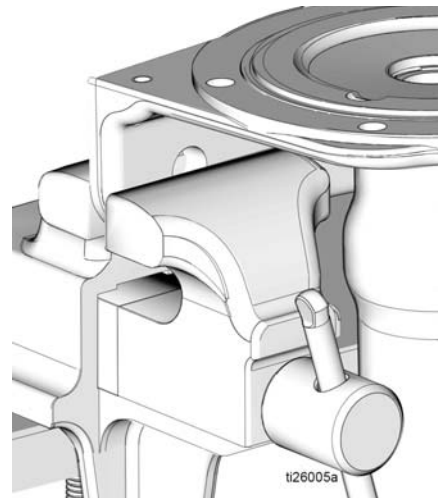

FIG. 26
18. Reposition the pump base (1) in the vise as shown in FIG. 26.